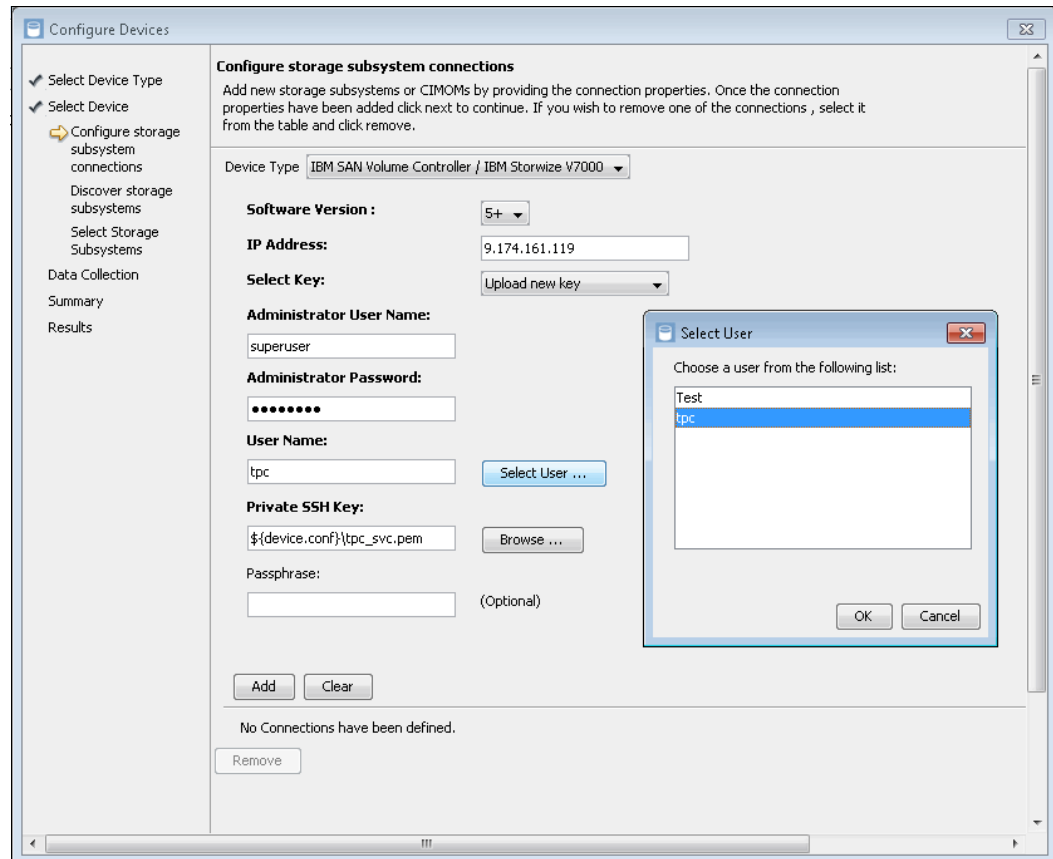

Figure 11-87 Configure device in Tivoli Storage Productivity Center
5. Enter the details about your IBM Storwize V3700 into Tivoli Storage Productivity Center, as shown in Figure 11-87.